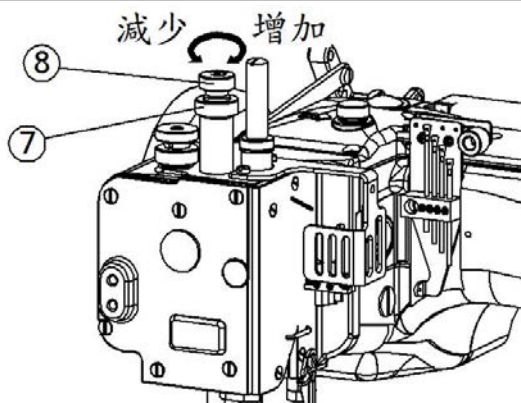

Fig.22
放鬆螺母⑦然後用壓腳柱螺帽⑧來調壓力。(Fig.22)
- 增加壓腳壓力時，順時間調整螺帽⑧。
- 減少壓腳壓力時，逆時間調整螺帽⑧。
Loosen the lock nut⑦ and turn the adjusting screw⑧ to adjust the pressure.(Fig.22)
- To increase the pressure, turn the adjusting screw⑧ clockwise.
- To decrease the pressure, turn the adjusting screw⑧ counterclockwise.